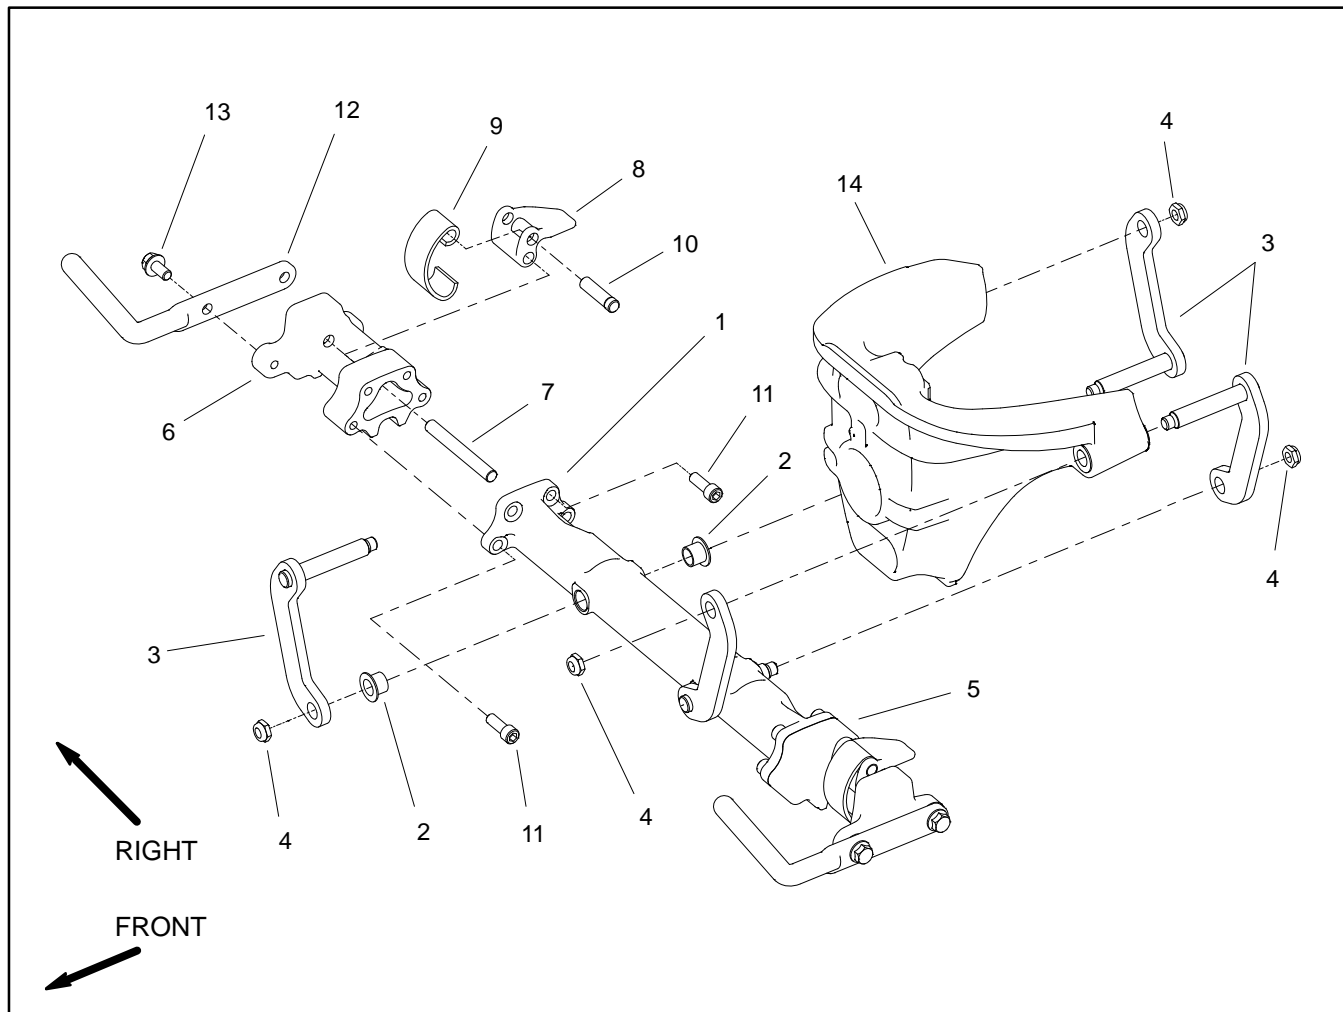

Figure 18
Disassembly (Fig. 18)
5. Disassembly crossarm assembly as required using Figure 18 as a guide.
Assembly (Fig. 18)
1. Assemble crossarm assembly using Figure 18 as a guide.